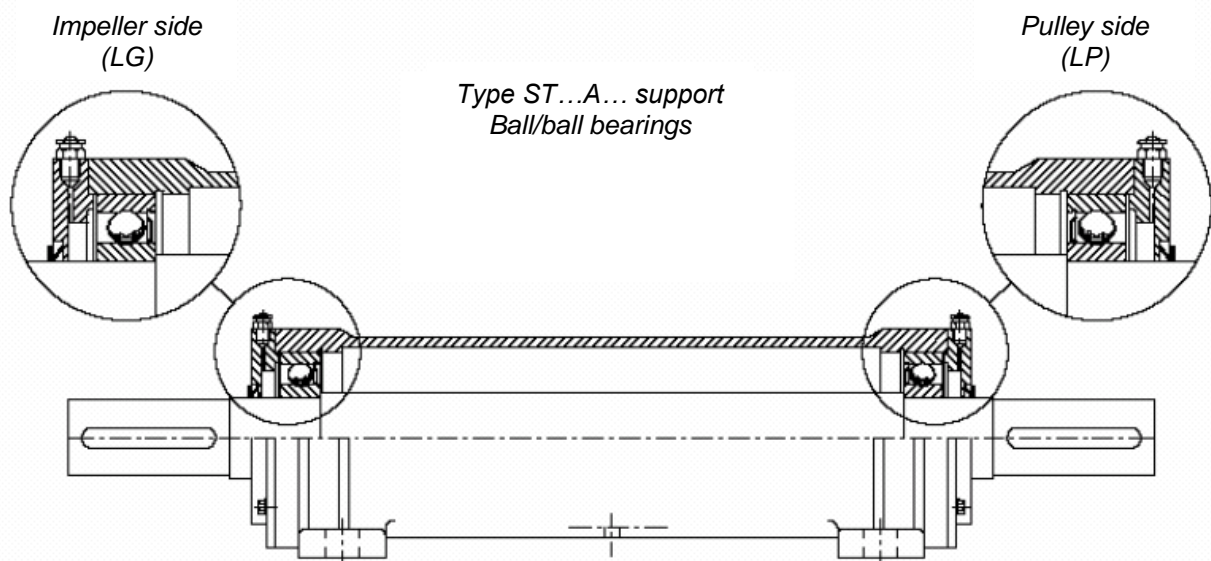

Fig. 10-8 ST...A... one-piece support with radial ball bearings both on impeller side and transmission side
- Type ST...A... support with rigid ball bearing on transmission side (Fig. 10-8).